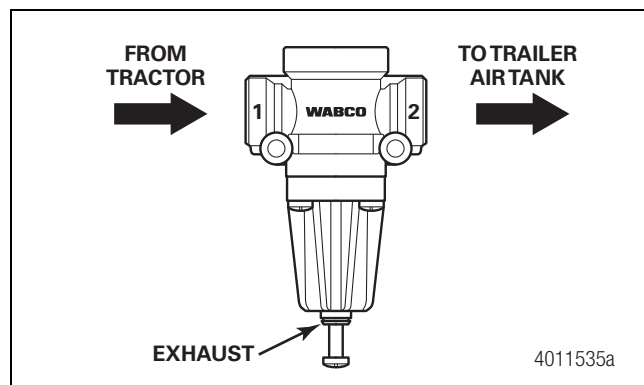

Figure 1
2. Mount the pressure limiting valve on the trailer frame as close as possible to the first spring valve in the air system. Ensure that the exhaust port is facing down. Use paint, plastic or mylar as a barrier between the valve and frame to protect against corrosion due to dissimilar metals. Figure 1.